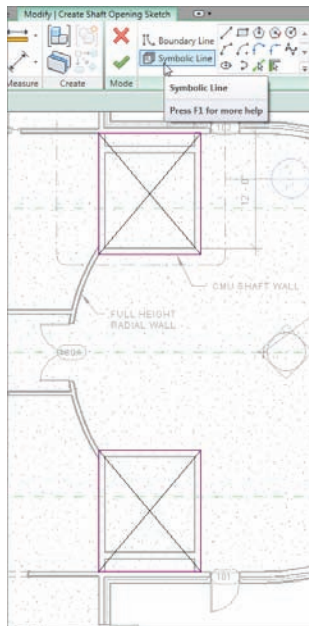

FIGURE 6.57 You can add any “drafting” symbolic lines you deem necessary.
7. Draw an X in both openings, as shown in Figure 6.57.